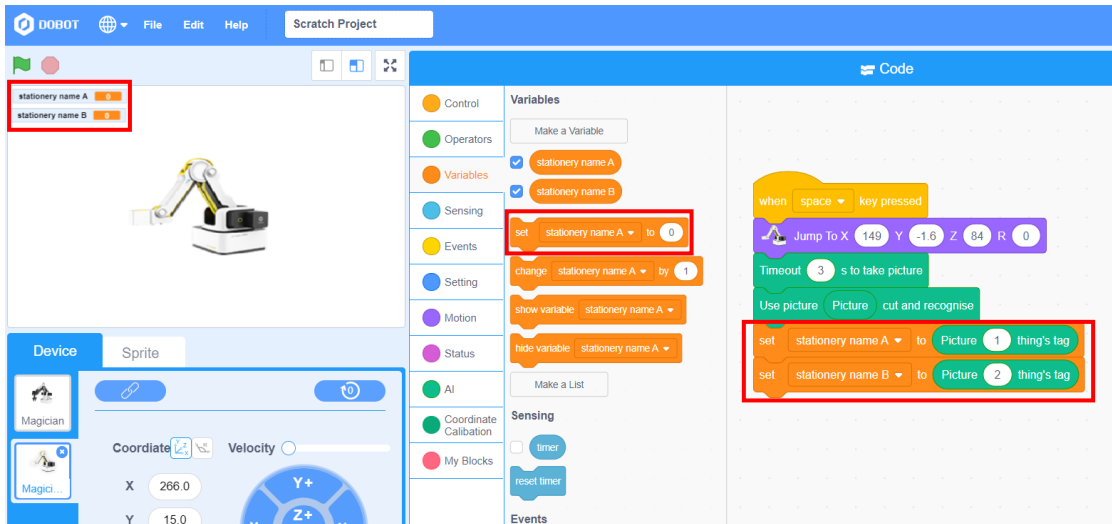

Figure 4.18 Assigning the variable
Step 7: Show the image label result on the stage, assign "Picture (1) thing's tag" to *stationery name A*, and "Picture (2) thing's tag" to *stationery name B*, as shown in Figure 4.18.